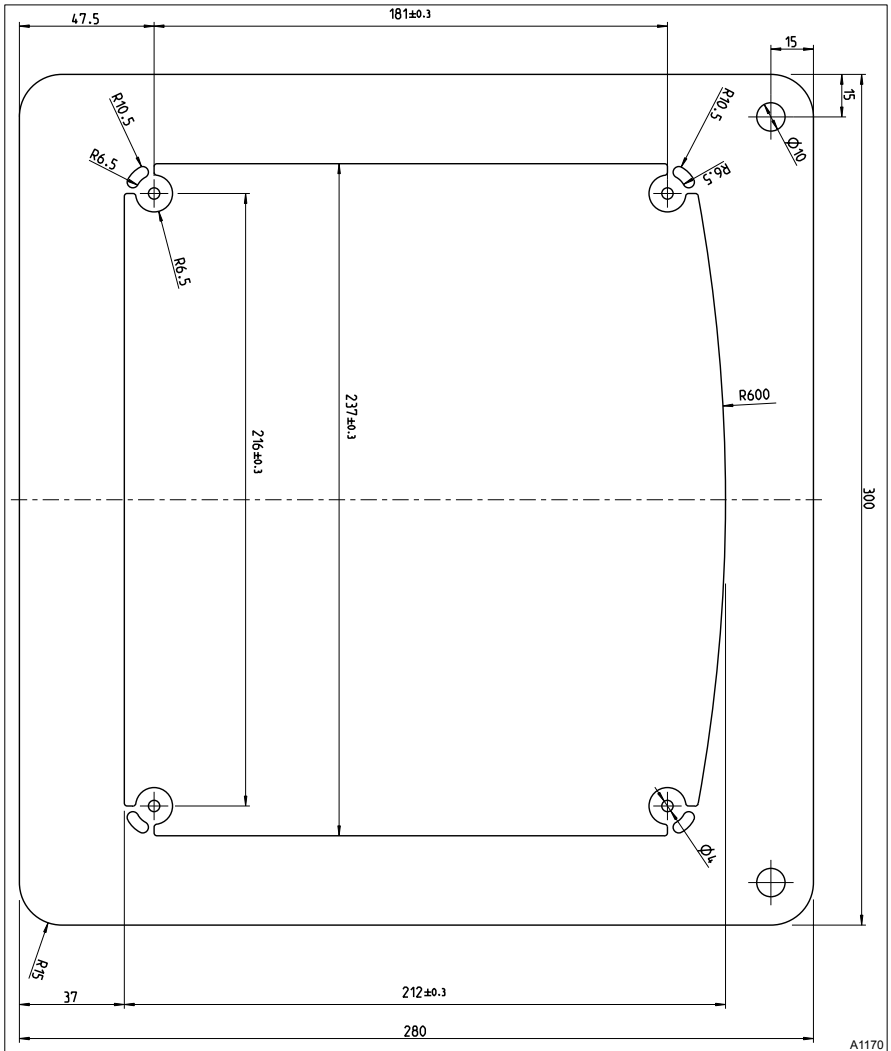

Fig. 13: The drawing is not true to scale and will not be revised as part of these operating instructions. The drawing is for information only.
- Use the dimensions shown in Fig. 13 and mark on the control panel